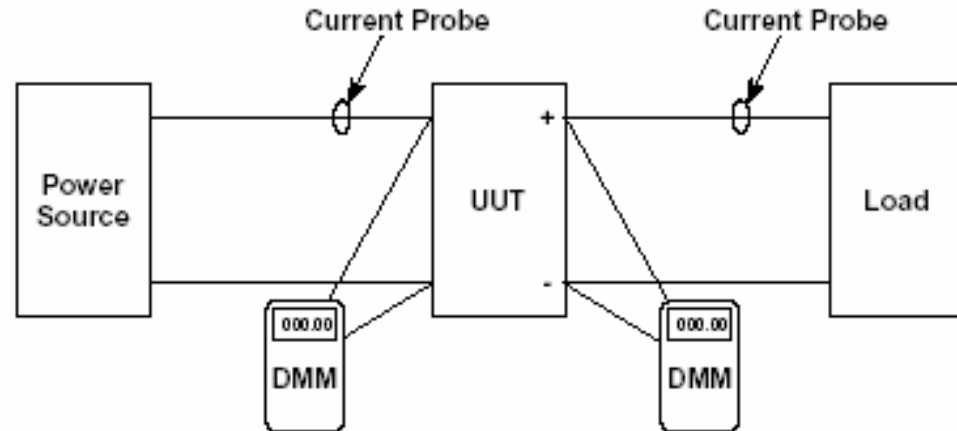
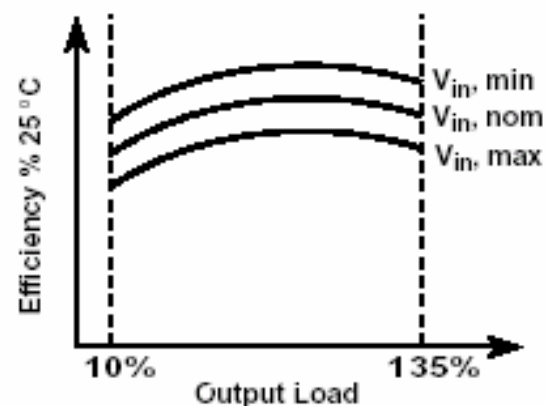

Figure 9—DC to DC converter efficiency and power dissipation measurement
Figure 10—Efficiency vs. power curves
For a dc-to-dc converter, connect the test setup as shown in Figure 9. It is noted that the ratio defined in Equation (6) is zero at no-load and at short circuit. Therefore, it is desirable to define the UUT's efficiency curves as shown in Figure 10. The recommended curves would be plotted for the specified min., nom., and max. input voltages, with each curve consisting of 10 data points between no-load and max rated load.